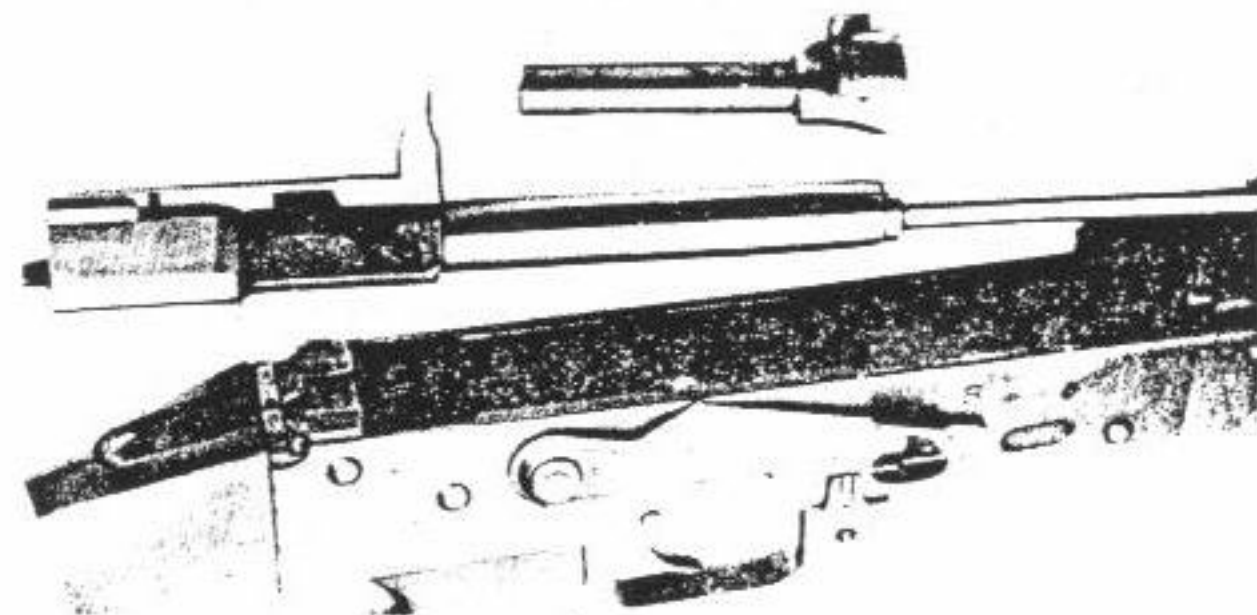

Figure 15
6. Remove the bolt from the bolt carrier by pivoting the bolt clockwise to the rear and turning an additional $\frac{1}{4}$ turn. Next, remove the bolt from the bolt carrier by extracting it toward the gas piston. (See Fig. 15.)